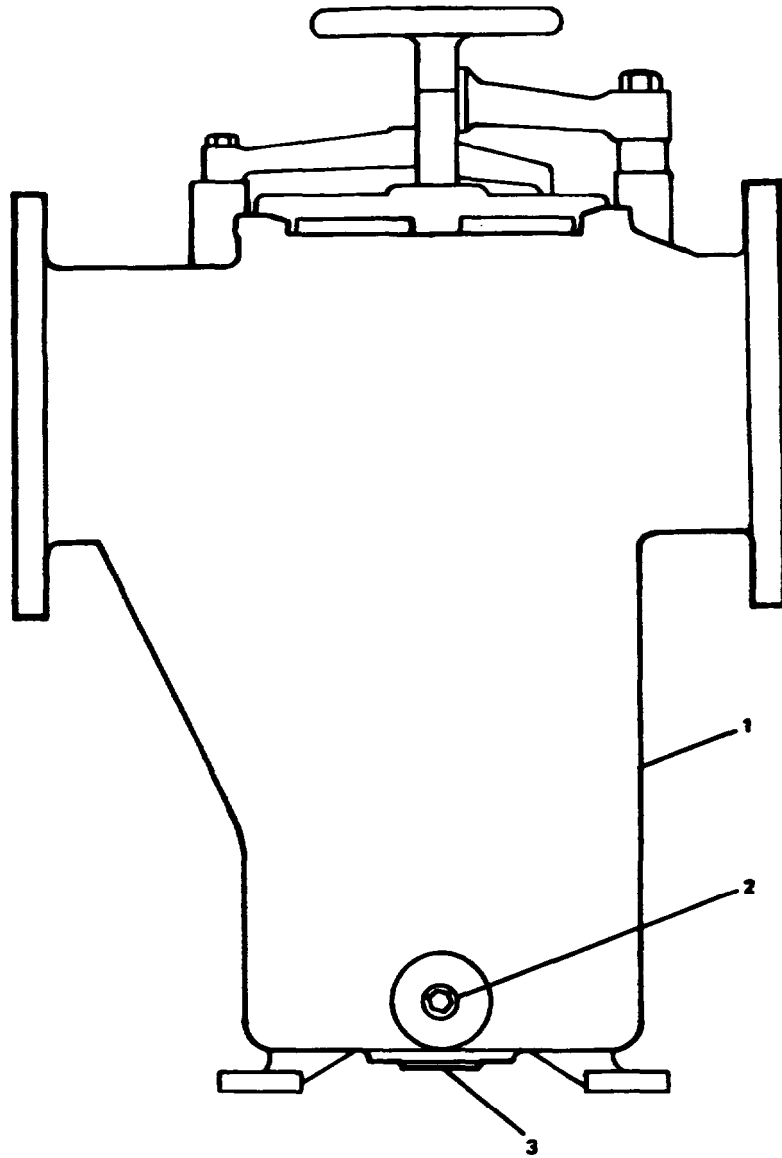

FIGURE 2-238. 5-Inch Simplex Sediment Strainer, Removal.
- a. Place a drip pan under simplex sediment strainer (3, FIGURE 2-238) and remove drain plug (4).
- c. Remove nuts (2) and bolts (1).
- d. Remove mounting bolts (5).
- a. Install simplex sediment strainer (3, FIGURE 2-238).
- b. Install mounting bolts (5) and torque to 75 ft-lb (102 N•m).
- c. Install bolts (1).
- d. Install nuts (2) and torque to 75 ft-lb (102 N•m).